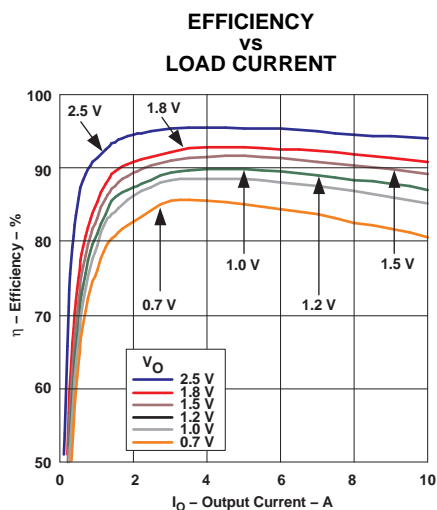
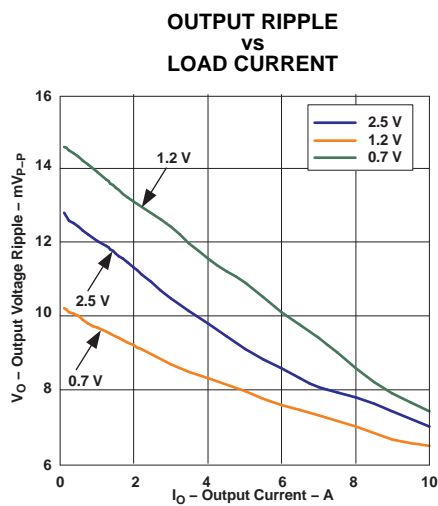
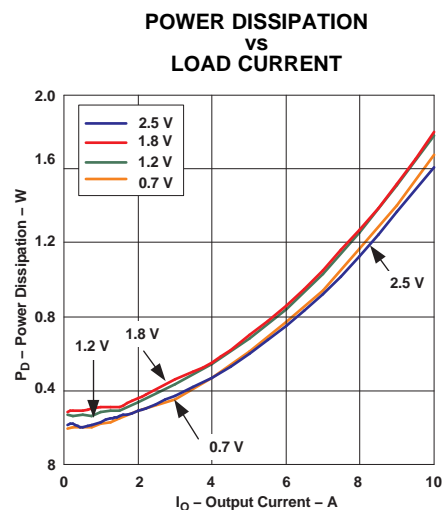

Figure 5.
Figure 6.
Figure 7.
- (1) The electrical characteristic data has been developed from actual products tested at 25°C. This data is considered typical for the converter. Applies to Figure 5, Figure 6, and Figure 7.